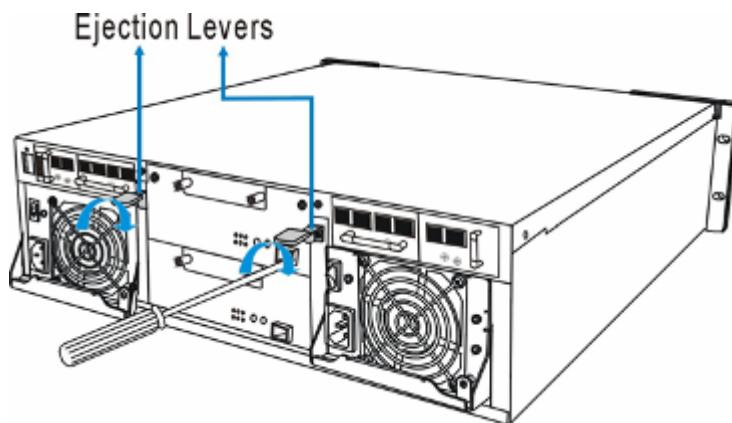

Figure 5-5: Securing Controller with Screws
Step 4. **Secure the controller module to the subsystem.** Secure the levers by fastening two (2) screws through holes underneath the levers to secure the controller module in place. (See *Figure 5-5*)